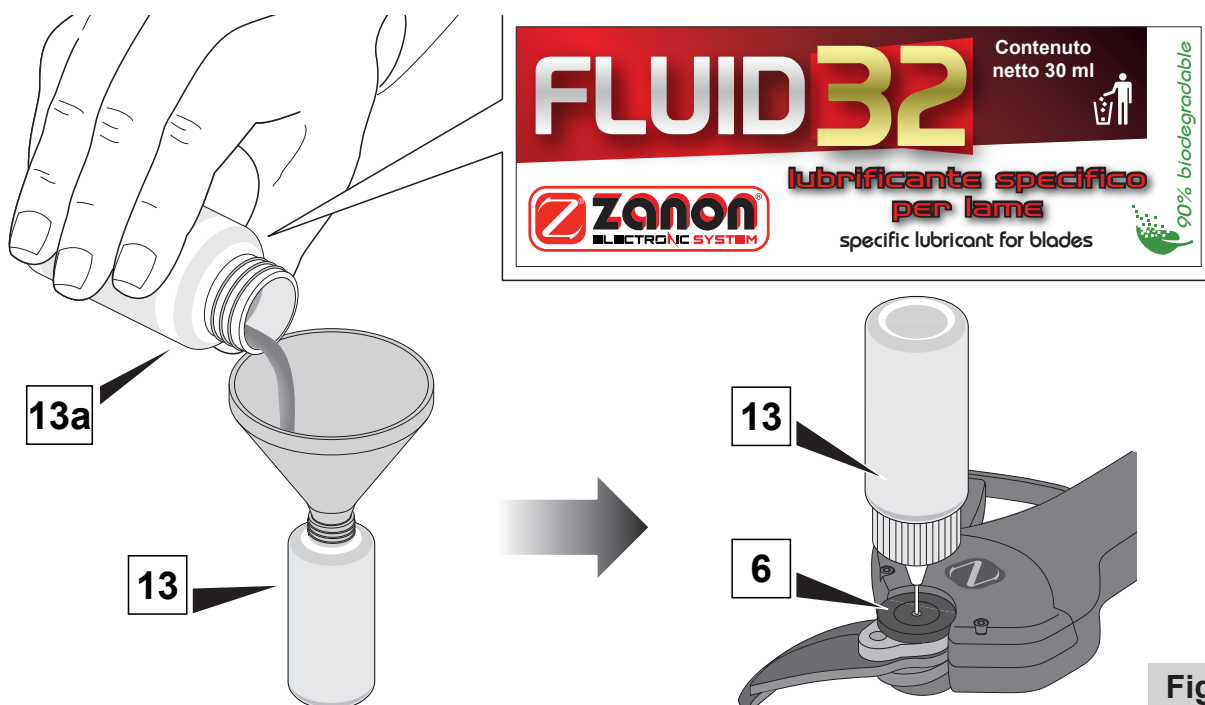

Fig. 8
- Fill the supplied oiler (**13**) by transferring the lubricant from the bottle (**13a**) as shown in **fig. 8**;